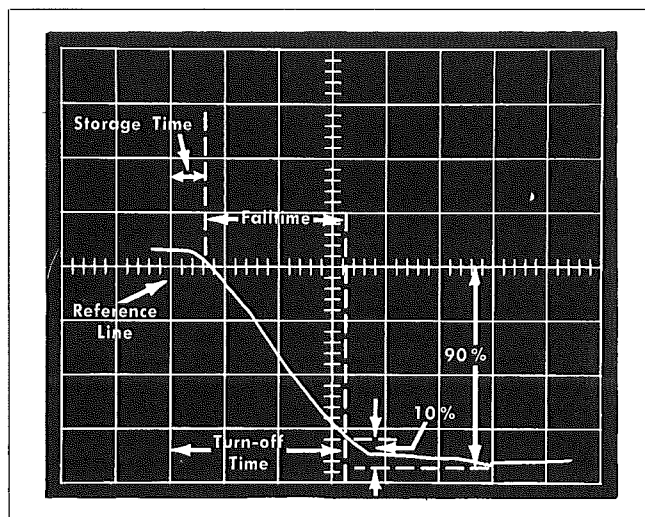

Fig. 2-13. Measuring transistor turn-off characteristics from the trailing edge of the collector output signal.
- Turn the pulse generator on, the Type 292 center TEST VOLTS switch to NPN or PNP, the center BIAS CURRENT switch to NORMAL or INVERTED (depending on type of transistor under test), and set the oscilloscope controls for the collector output trailing-edge display similar to that shown in Fig. 2-13. Use this display to measure the transistor turn-off characteristics. (For dual-trace test